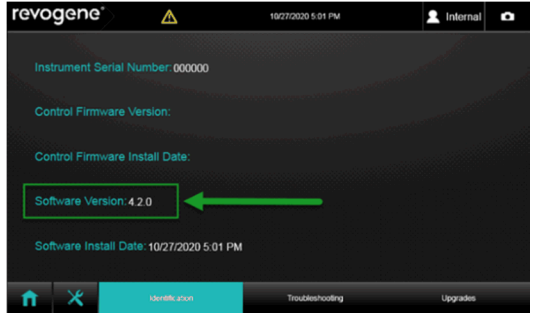

Figure 7: Version Confirmation
13. Verify that the software version has been updated to version **4.2.0**. (Figure 7)